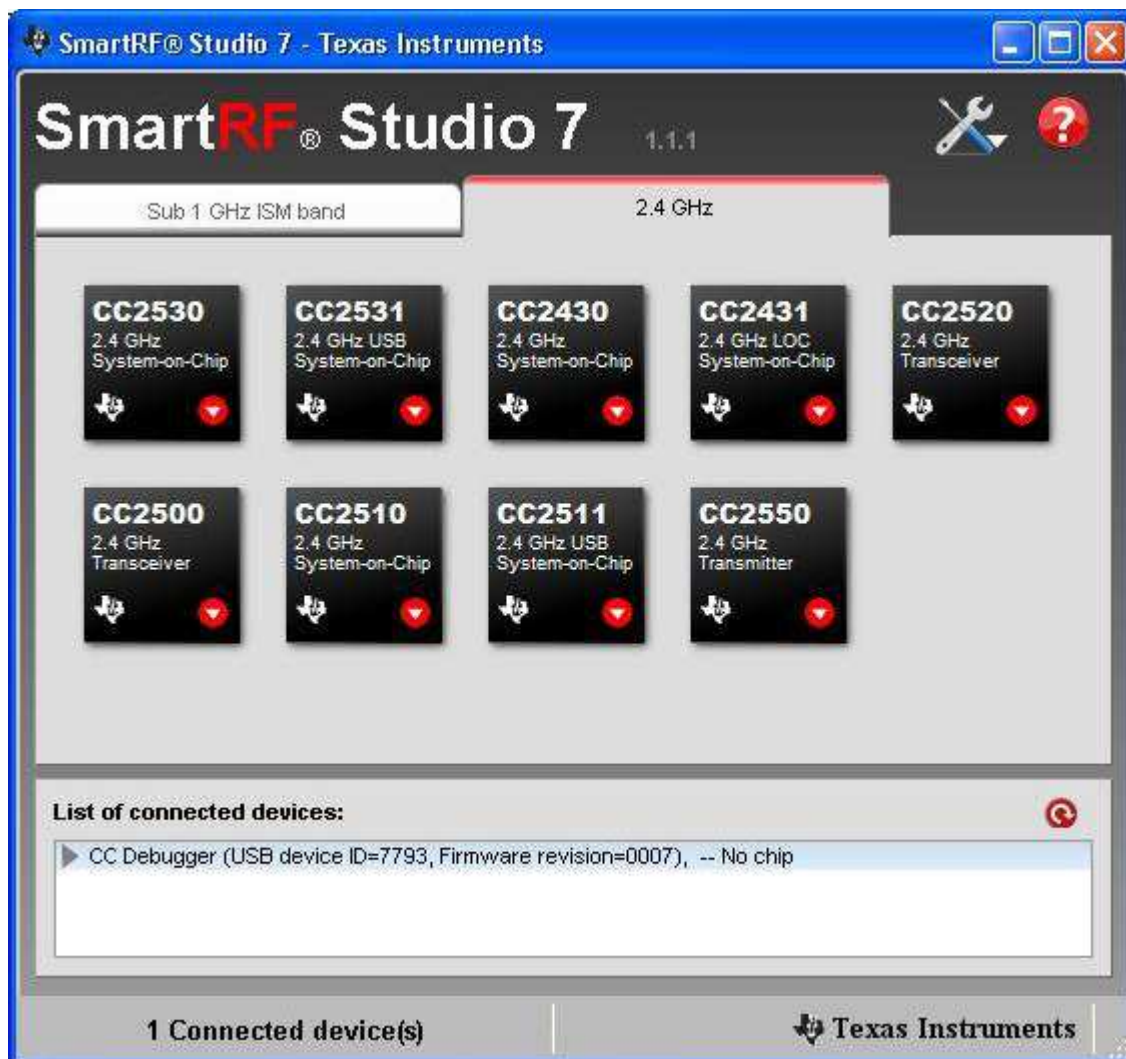

Figure 12. Auto Firmware Upgrade
2. Disconnect the debugger from any target board and connect it to the PC via the USB cable. The debugger will appear in the list of connected devices in the lower part of the SmartRF Studio startup panel (see Figure 12).